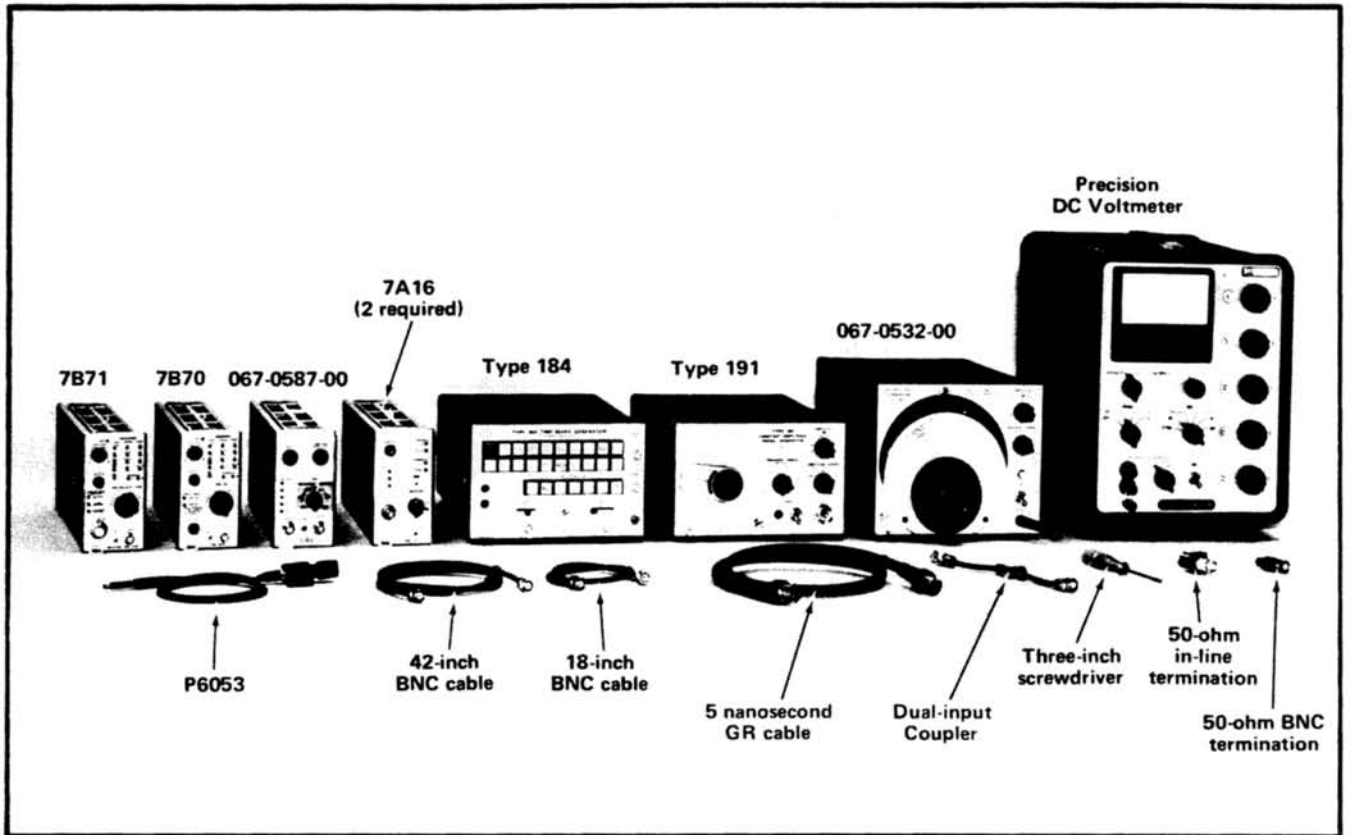

Fig. 5-19. Test equipment required for steps 18 through 30.
- Test equipment required for steps 18 through 30 is shown in Fig. 5-19.